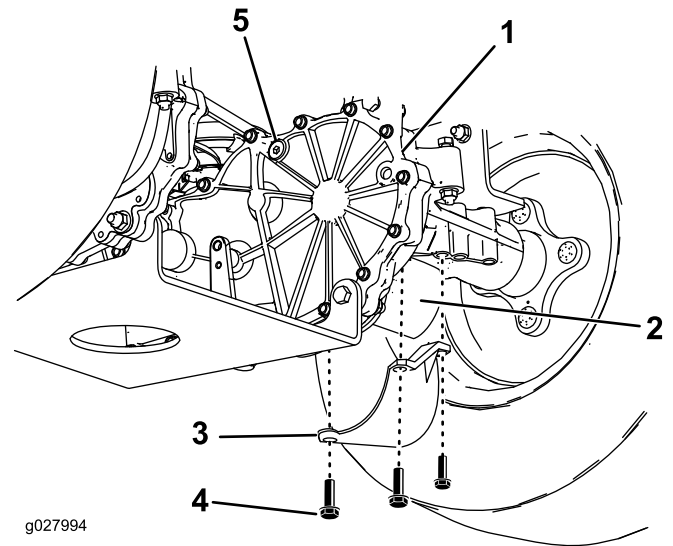

Figure 44
3. Locate the filter and filter guards on each transaxle drive system (Figure 44). Remove three screws securing the filter guard and guard.
4. Verify the vent plugs are removed before adding the oil (Figure 44).